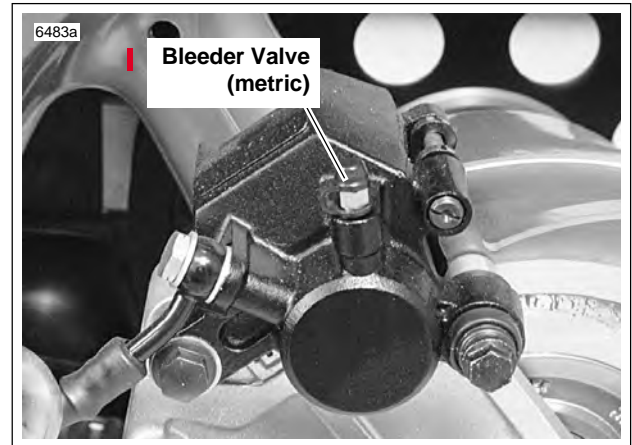

Figure 2-35. Rear Caliper Bleeder Valve (Metric)
1. See Figure 2-35. Drain brake fluid into a suitable container. Discard of used fluids according to local laws.